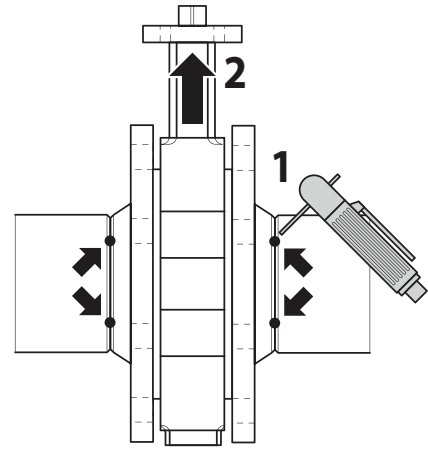

Fig. 25.
- TACK weld the flanges to the piping in several places. (Fig. 25) **Do NOT seam weld at this time!**